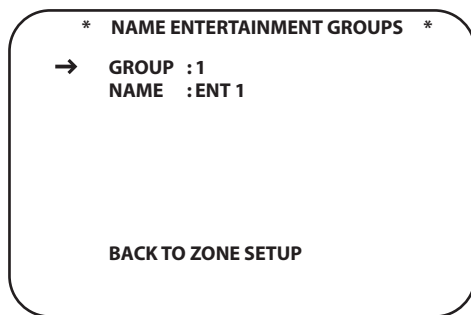

Figure 62.
1. From ZONE SETUP PAGE 1, with the cursor next to NAME ENTERTAINMENT GROUPS, press the **Set Button 18**. The NAME ENTERTAINMENT GROUPS screen will appear (Figure 62).